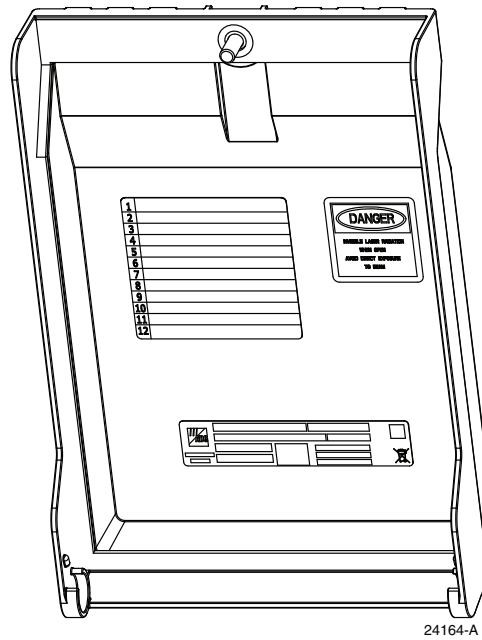

Figure 16. Circuit Labels
4. Label the circuits. Record circuit information on label located inside cover (Figure 16).